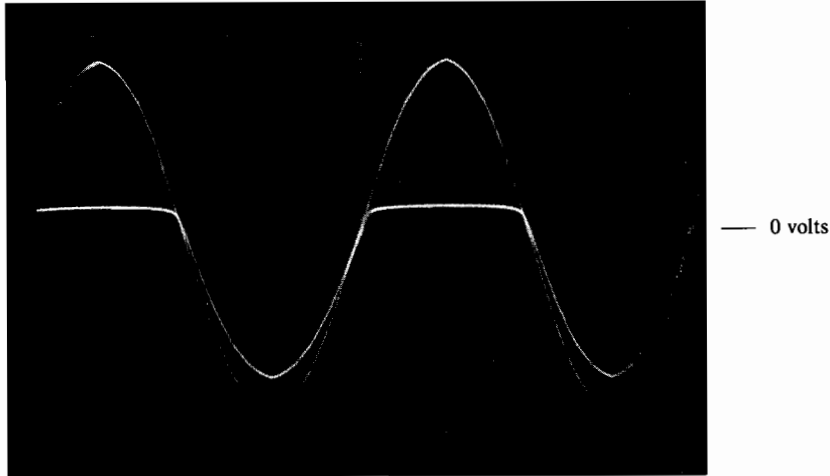

FIGURE 4-2
2. Now connect the signal generator to the breadboard. Adjust the signal generator's output level at 6 V peak-to-peak at a frequency of 200 Hz. You should see two waveforms similar to those shown in Figure 4-2. Notice that the positive peaks of the limiter's output waveform are removed, or *clipped* off. Notice also that the clipping level is not perfect; the positive peaks are clipped not at zero volts, but at a small positive voltage. When the input waveform goes positive at a level greater than the barrier potential of the diode, the diode is forward biased, the equivalent of a short circuit in series with a small dc voltage source. Thus, approximately 0.5 to 0.7 volt (the barrier potential